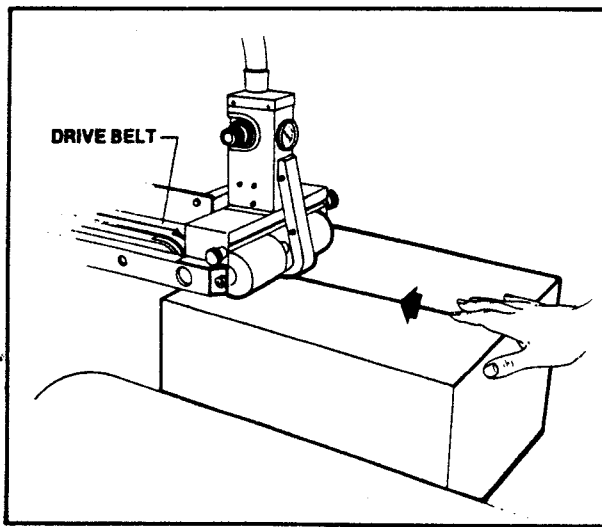

FIGURE 18 - DRIVE BELTS
- 3) Once the box is pushed under the top taping head, the top taping head valve lever is released causing the top taping head to descend onto the box top, as shown in figure 18, allowing the drive belts to convey the box through the top and bottom taping heads for application of the tape seals.